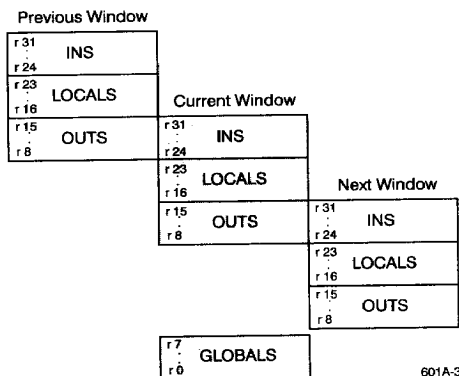

Figure 1. Register Windows
**r Registers.** The r registers (Figure 1) consist of eight 32-bit global registers, and 8 windows, each having twenty-four 32-bit registers. Each two adjacent windows are overlapped in eight